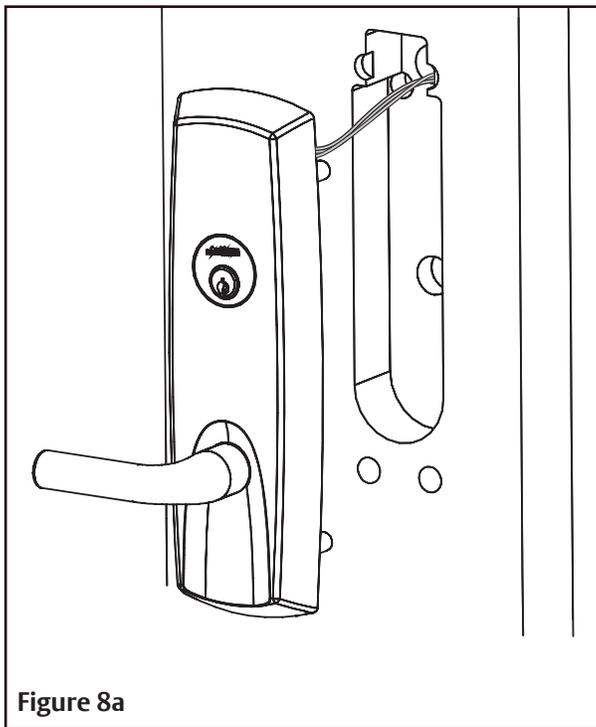

Figure 8a
1. Feed trim harness through upper hole in cutout (Figure 8a).